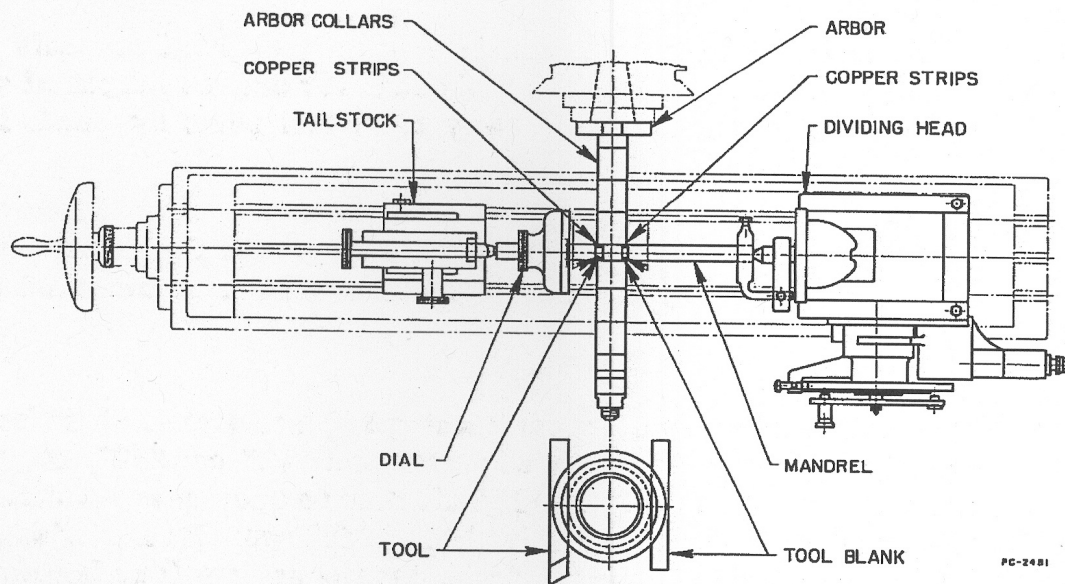

Figure 54
5. Fasten arbor with arbor collars into spindle of machine. At a convenient distance from the spindle nose separate two of the arbor collars about 1 inch (Figure 54). Place two thin pieces of copper on each side of tool and mount between separated arbor collars. Similarly place a tool blank, with copper strips, between arbor collars directly opposite tool and tighten arbor nut.